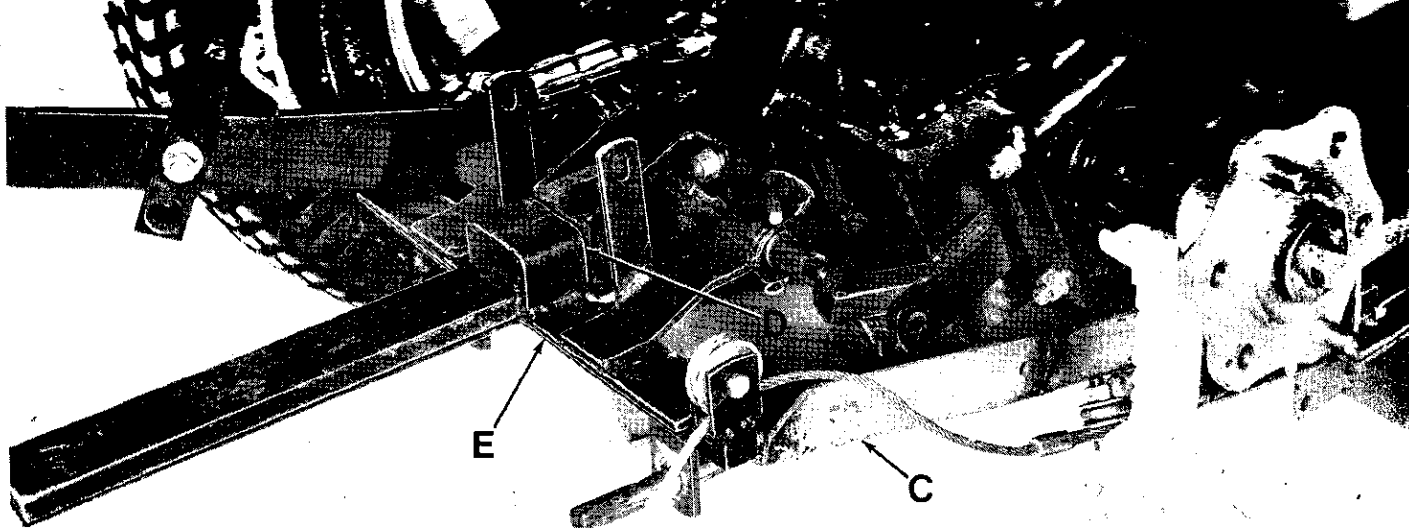
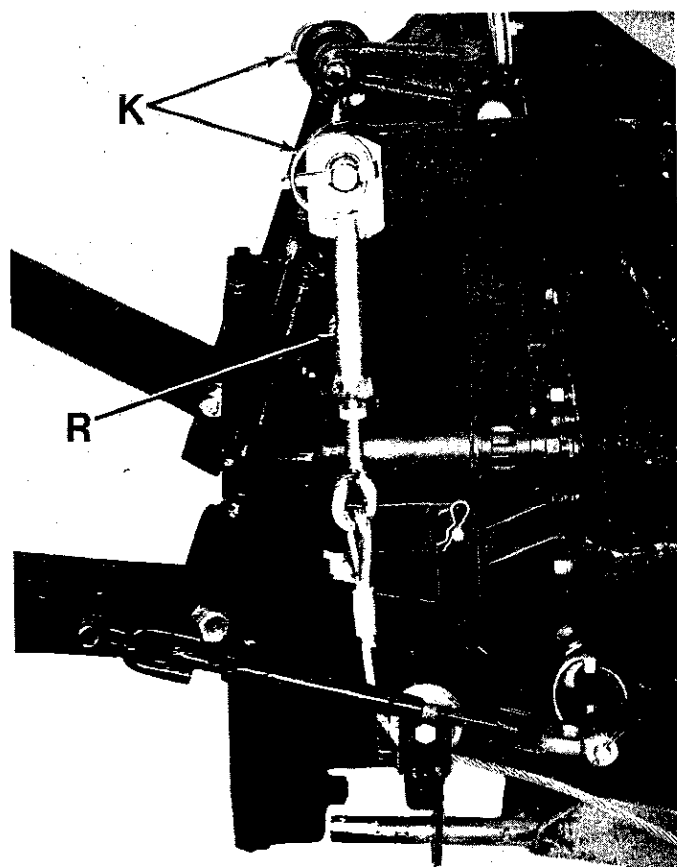

FIG. 13
FIG. 15
6. Slide rear lift bracket (E) into tractor drawbar mounting hole (D). (See Fig. 13) Raise rear stabilizer pan (C) and insert the two guide rods of rear stabilizer pan (C) into holes at bottom of rear lift bracket (E). Slide rear lift bracket (E) as far forward into tractor drawbar mounting hole (D) as it will go, secure with pin.
7. Connect lift spring assembly (S) to mower deck by sliding lift bracket assembly (G) onto lift bar (U) and securing with locating pin (T) at each side of mower deck. Lift spring assemblies (S) must be below lift bars (U) and locating pins (T) must be through forward holes of lift bars (U). Secure locating pins (T) with hair cotter pins.
8. Remove klik pins (K) from top of three point hitch lift links. (See Fig. 15) Put adjustable rear link (R) of cable onto pin of three point hitch lift link at each side of tractor and re-install klik pins (K).